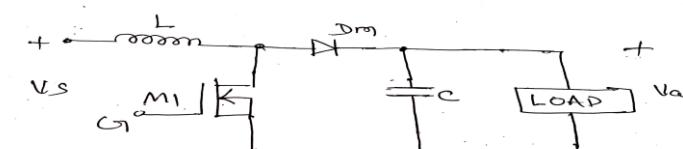

Fig Q 6 (b)
b) A Boost regulator shown in Fig Q 6(b) has an input voltage of $V_s = 5$ V. The average output voltage $V_a = 15$ V and the average load current $I_a = 0.5$ A. The switching frequency is 25 kHz. If $L = 150 \mu H$ and $C = 220 \mu F$. determine (i) duty cycle (ii) the ripple current of inductor (iii) peak current of inductor (iv) ripple voltage of filter capacitor (v) the critical values of L and C 10